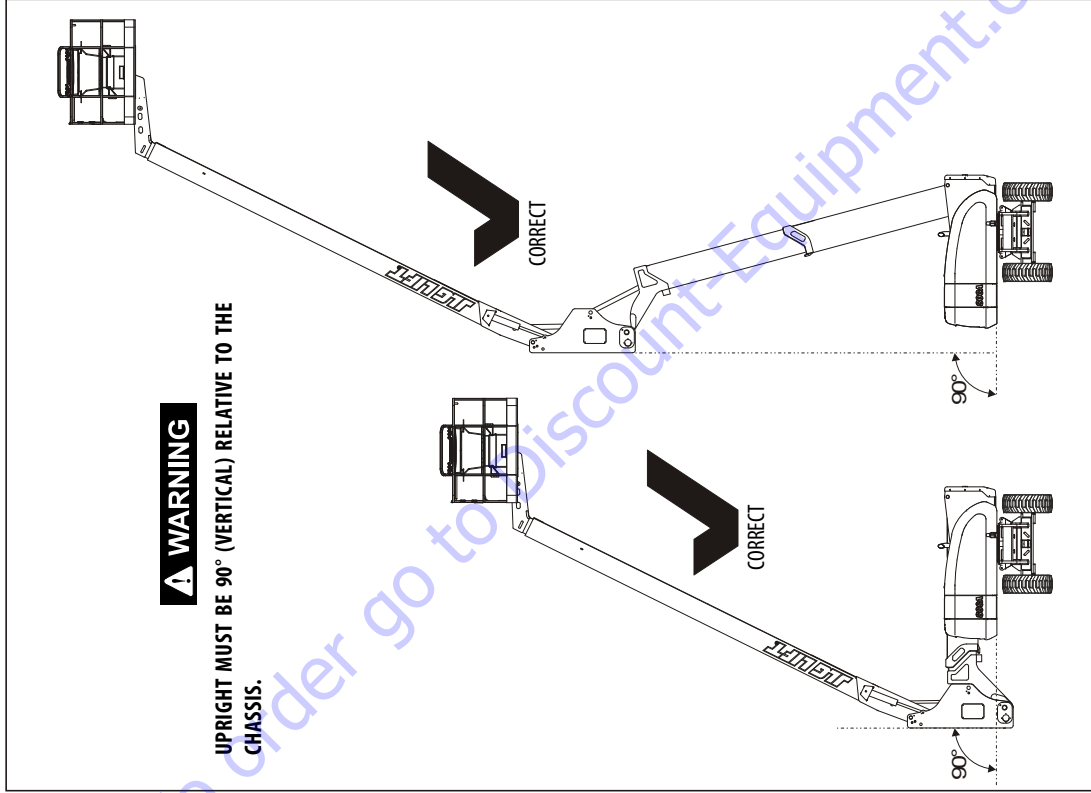
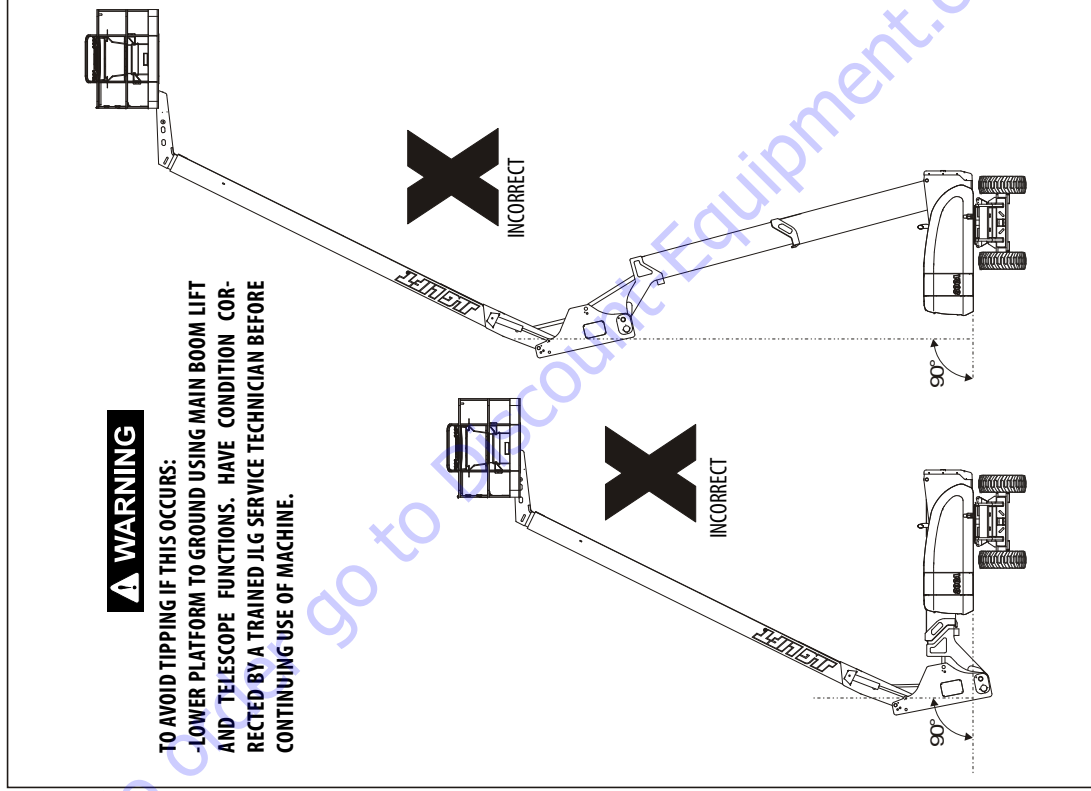

Figure 2-5. Boom Upright Positioning - Correct
Figure 2-6. Boom Upright Positioning - Incorrect
- 23.** Upright - In vertical position, relative to the chassis. Refer to Figure 2-5. and Figure 2-6. If out of alignment, do not use machine until the upright has been synchronized in accordance with Section 4.16.
2. Raise tower base boom to approximately 40 degrees, then lower the tower boom back to the below horizontal position. While raising and lowering tower boom assembly, observe position of the upright. Ensure upright remains vertical relative to the chassis. Refer to Figure 2-5. and Figure 2-6.